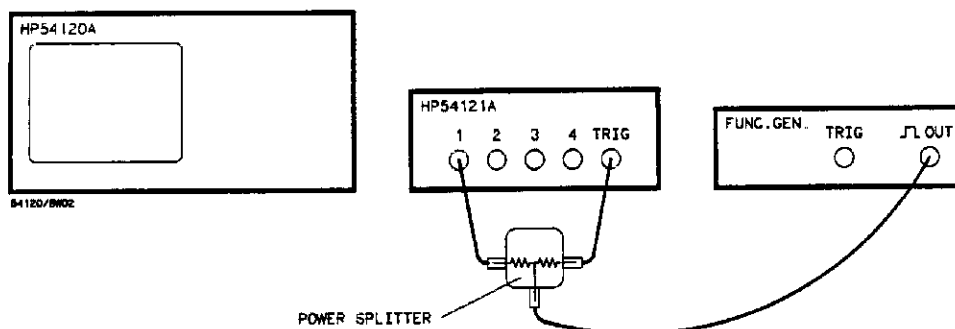

Figure 11-3. Equipment Configuration
- Connect the output of the function generator to channel 1 and trigger inputs of the HP 54121A test set with the power splitter. See Figure 11-3 on next page.